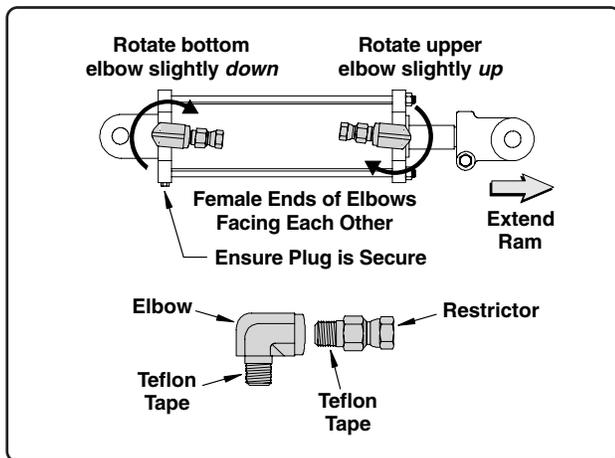

Fig. 12
- Locate the four ramp lift cylinders (Part No. 1041669). Clamp a cylinder into a vise and remove the two plugs from the cylinder ports. Also, ensure the single plug on the side of the stationary end of the cylinder is tight and secure (See Fig. 12).
- Apply teflon tape to the male ends of the 90° elbows. Install the elbows into the cylinders so that when tight, the female ends of the elbows face each other and are at a slight angle to allow the hoses to be parallel with each other (See Fig. 12).
The elbow on the stationary end should angle slightly down, and the elbow on the ram end of the cylinders should angle slightly up, yet keeping hose alignment parallel (See Fig. 12).